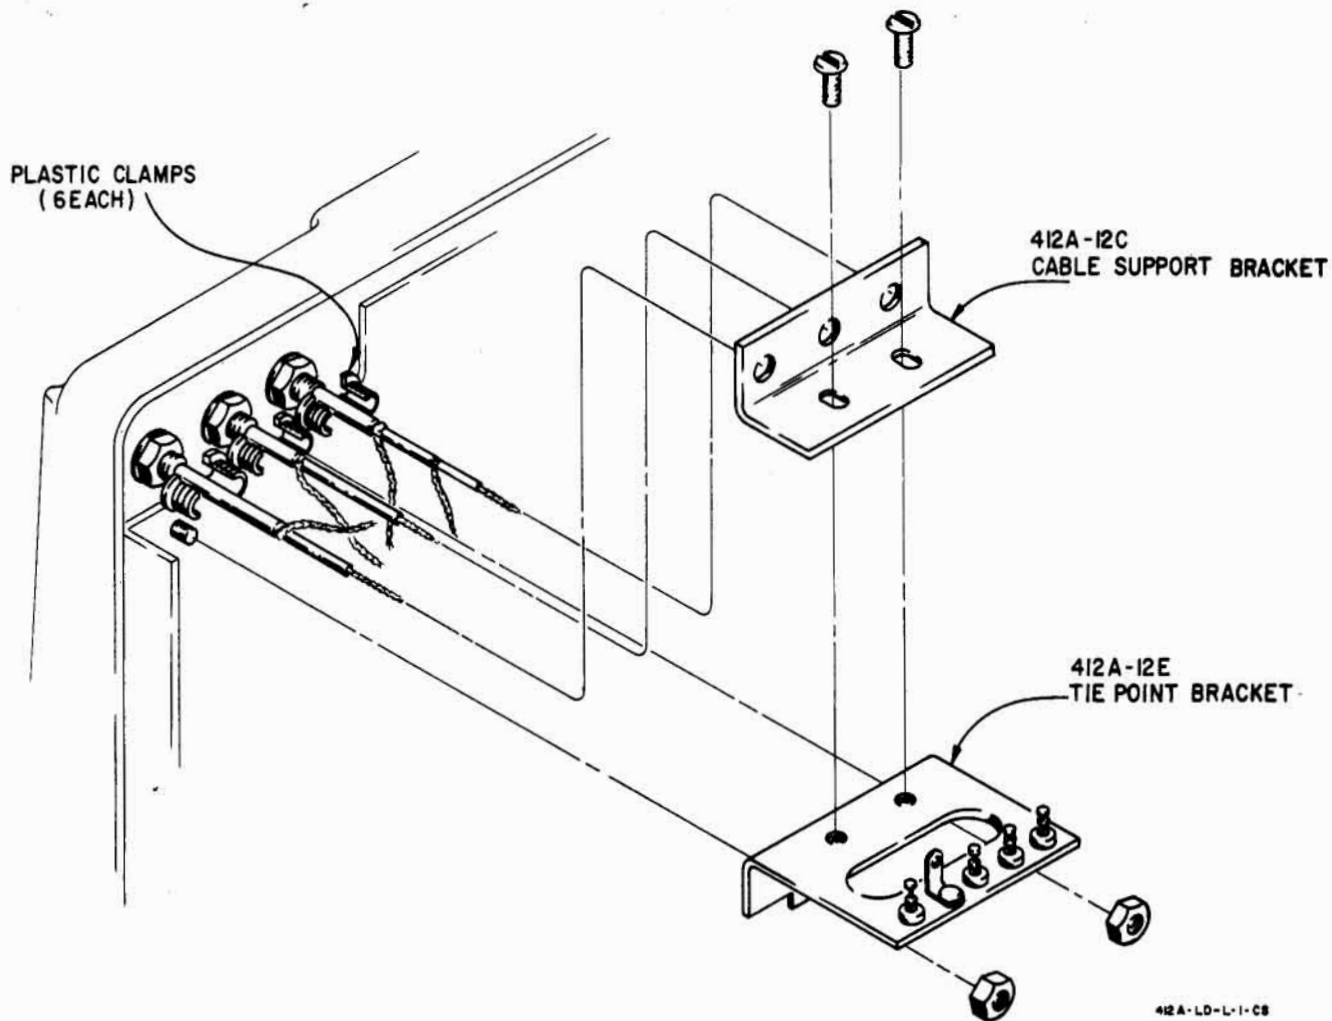

Figure 1. Exploded View of  $\text{Ⓢ}$  Model 412A Cable Support Assembly
7. Install new tie point bracket using the original #6 bracket screws (Refer to Figure 1).